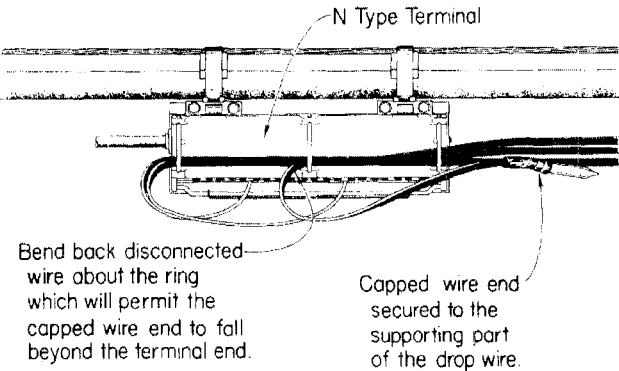

Fig. 7 – N-Type Terminal, Strand and Sheath Mounted
- (1) Pull free end of wire out of the terminal.
- (2) Lay wire back on itself at the wiring ring, which will allow the free end to fall outside the terminal wiring rings.
(3) Tag and cap the wire end and secure it to the supporting part of the wire as shown in Fig. 7.